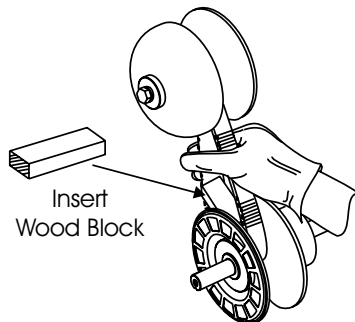

Figure 19. Holding Lower Pulley Open
3. A wooden block inserted between the moveable face and the fixed face of the lower drive pulley may help keep the lower drive pulley faces open while installing the new drive belt. See Figure 19.